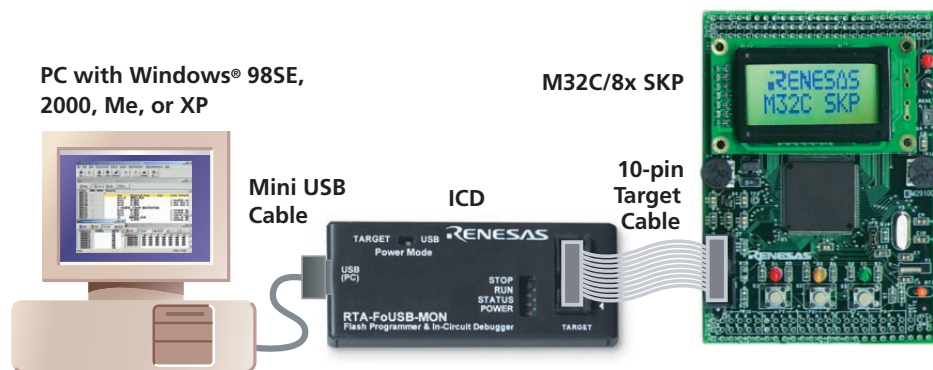

Figure 2. M32C/8x SKP System Connectivity
- a) Connect the SKP to the PC as shown in Figure 2 (described in detail in steps 3a) and 3b) above).